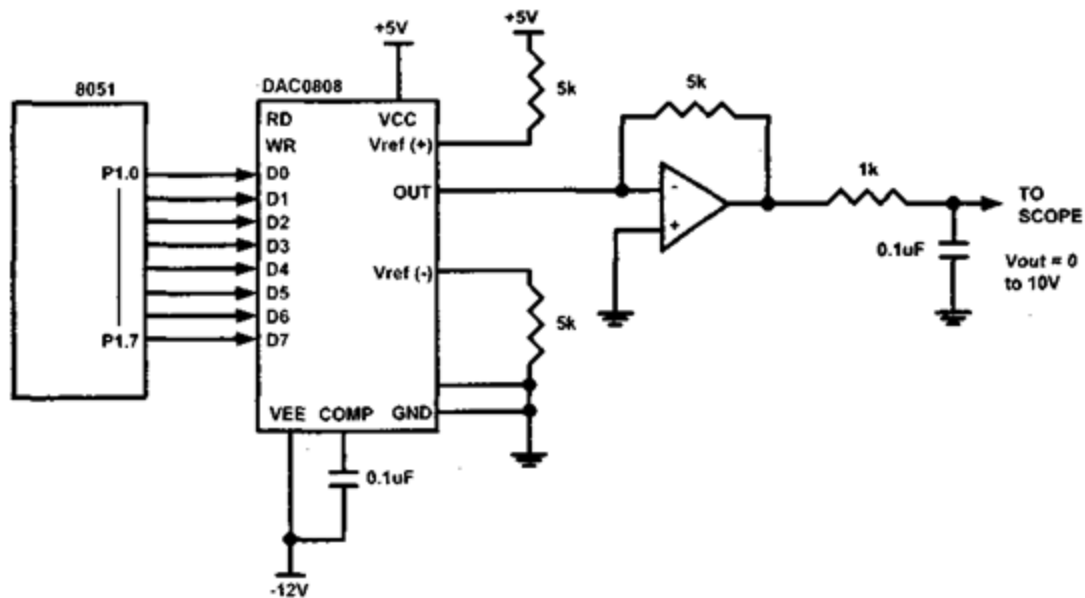

Figure 5.12 8051 Connection to DAC808
- The 8051 connection to DAC0808 is as shown in the below figure 5.12.
Inorder to generate a stair-step ramp, set up the circuit in figure 5.12 and connect the output to an oscilloscope. Then write a program to send data to the DAC to generate a stair-step ramp.